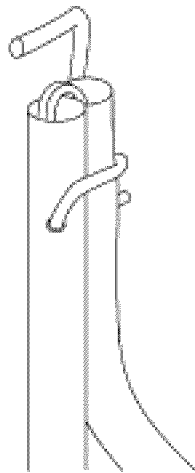

Figure 1
1. To secure parts during shipping, a wire is wrapped around the upper and lower tube sections. Remove it, but don't discard. (Figure 1)